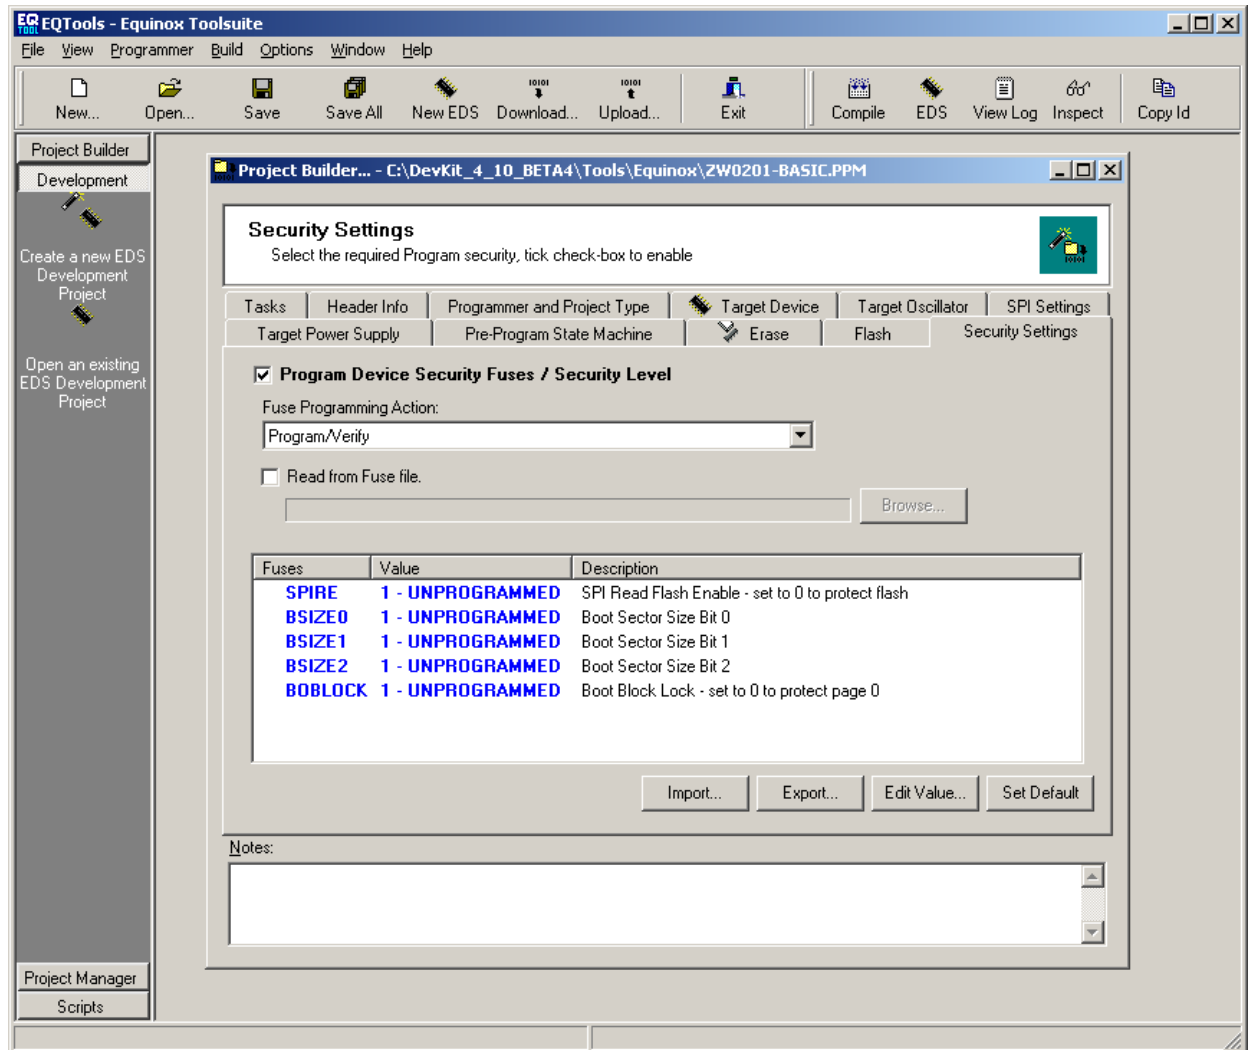

Figure 15 Security Settings window
9. Open the Security Setting window by selecting the *Program Security* tab, as depicted in Figure 15.